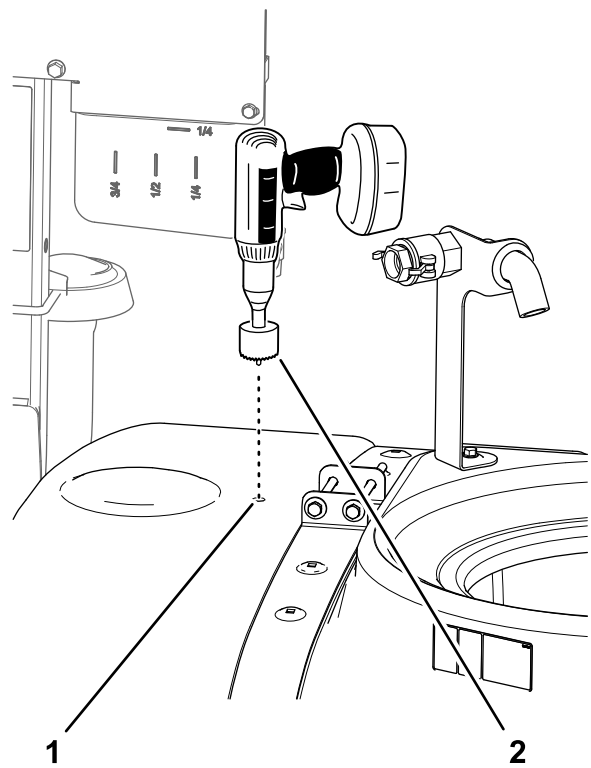

Figure 19
7. Repeat steps 4 through 6 at the forward drill mark (Figure 19).